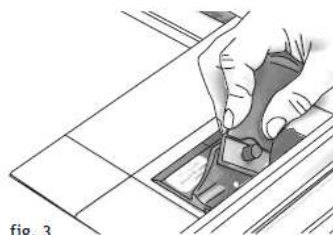
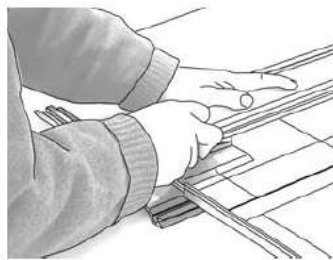

fig. 3 Press the blade into the board and push the cutter away from you up towards the finish pencil line.
fig. 5 Before starting to cut, lower your arm, so that you are cutting along the line, rather than pushing downwards.
6. To begin cutting, align the start/stop silver line on the cutting head just behind the start (or bottom) pencil line. Press the blade into the board and push the cutter away from you up towards the finish pencil line. Before starting to cut, lower your arm, so that you are cutting along the line, rather than pushing downwards - see fig. 5. With practise you will be able to eliminate any overcuts or undercuts - see fig. 3 & 4.